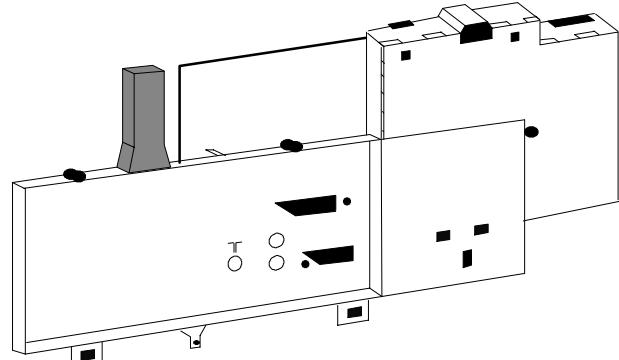

Fig. 7.
4. Unclip the front metal cover (fig.7) and remove from the A-board.
- 5. Retirer le capot métallique (Fig.7) de la PCB-A.